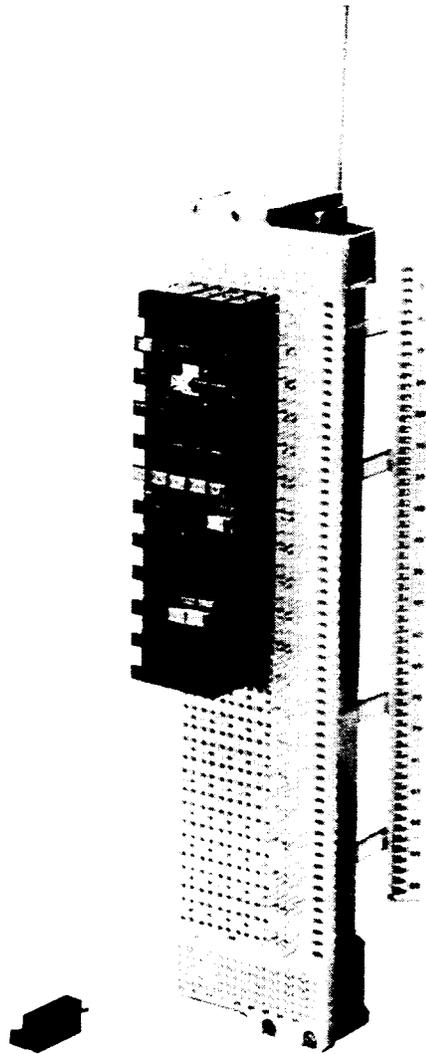

**Figure 23—305-Type Connector**
**6.07** The 305-type connectors (Figure 23) are used for terminating and protecting outside plant cables on conventional and low profile conventional